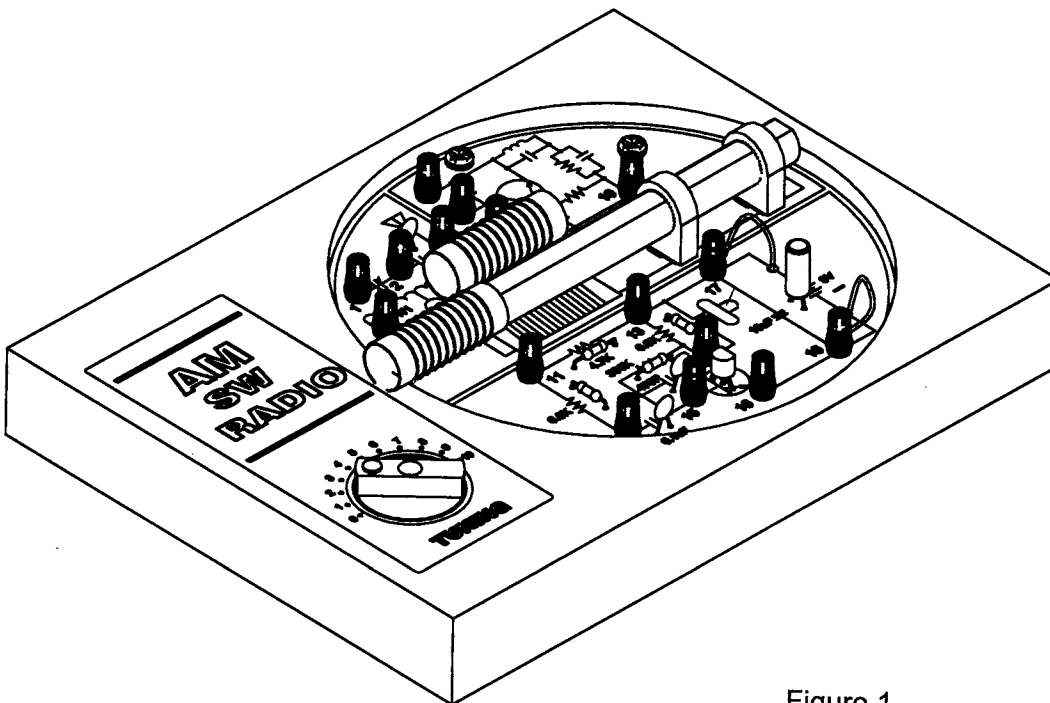

Figure 1
2. Place your Board next to Figure 1 and compare each part and its leads to the illustration.
REFER BACK TO FIGURE 1 and install the final wires on the top, as illustrated and noted below: